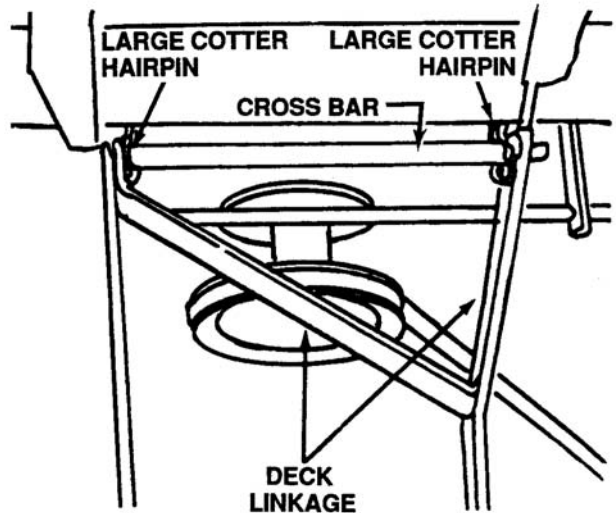

Figure 8-13. Disassemble/Reassemble Cross Bar
11. Disassemble front cross bar from the tractor then reassemble using two large cotter hairpins to attach the deck linkage to the tractor frame. See Figure 8-13.